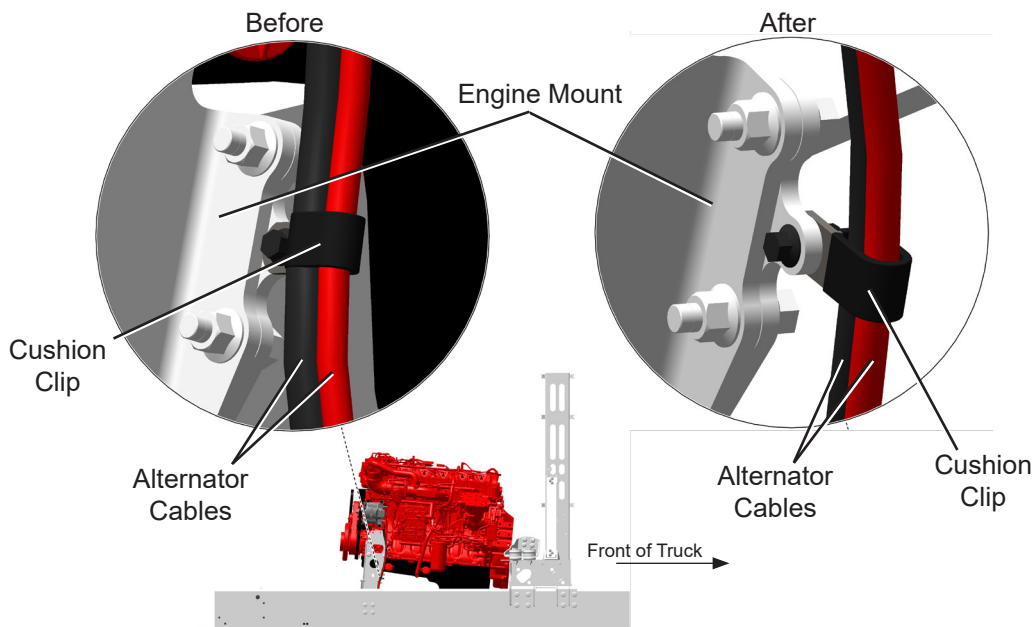

Figure 2
5. Locate cushion clip securing engine alternator cables to engine mount. See Figure 2.
6. Loosen and remove 0.25-20 x 1.0 inch screw and lock nut securing cushion clip to engine mount. See Figure 2.
7. Rotate cushion clip removed in Step 6 180 degrees and reinstall on front side of engine mount. See Figure 2.
8. Reinstall 0.25-20 x 1.0 inch screw and lock nut to secure cushion clip to engine mount. See Figure 2. Final tighten cushion clip mounting hardware to 9 ft. lbs.